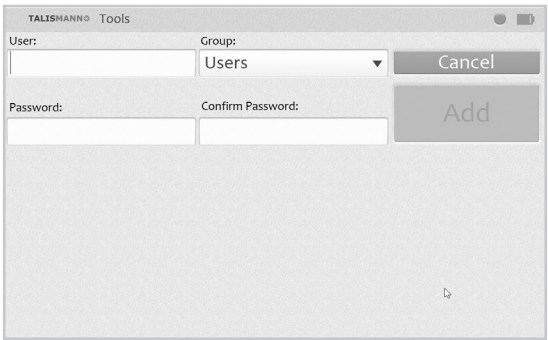

Figure 10-3: Add new user window
2. Enter a user name and password, confirm the password, select either "Users" or "Administrators" from the "Group" drop-down list, and then press the "Add" button. See Figure 10-3.